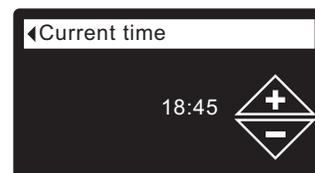

FIG. 44
5. Press the SELECT (O) button to display the Current time screen (See Figure 44).